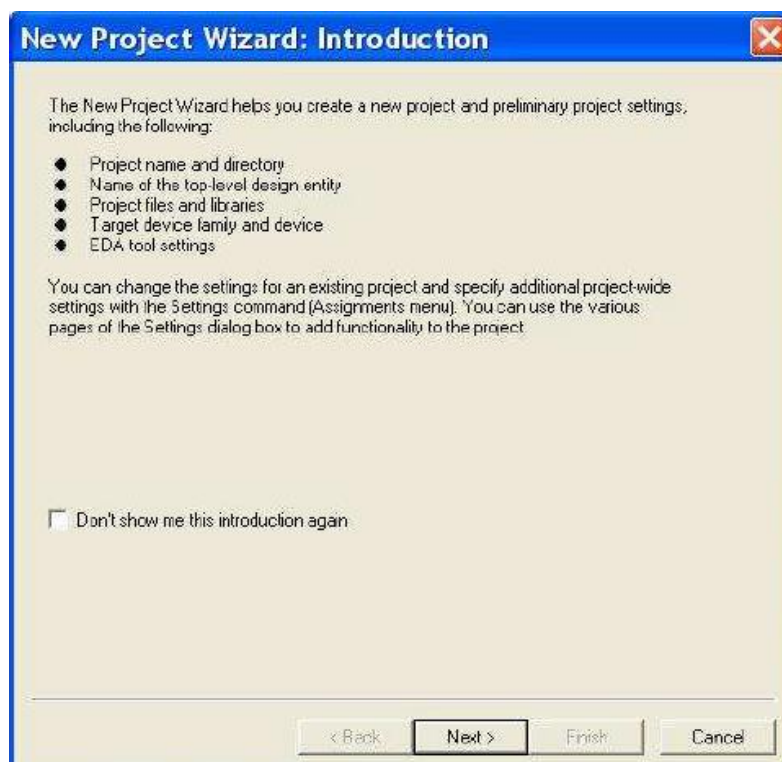
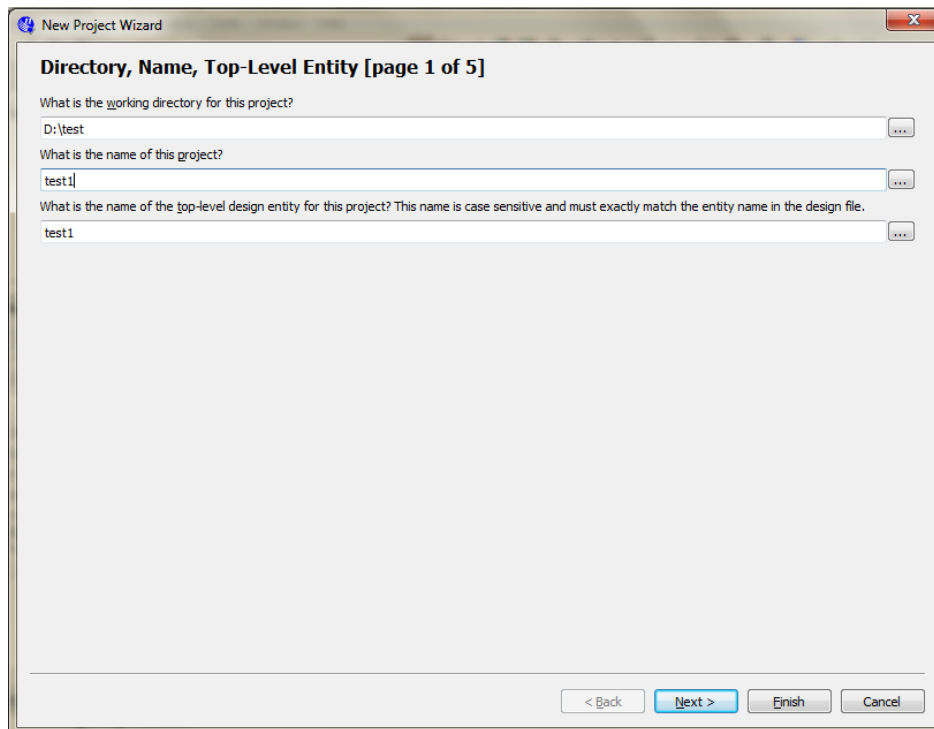

Figure 4. Tasks performed by the wizard
Figure 5. Cration of a new project
- Check the box **Don't show me this introduction again** in the Figure 4 Press **Next** to get the window shown in Figure 5.